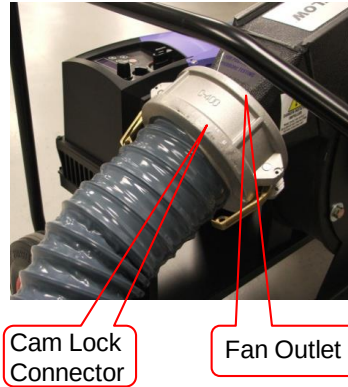
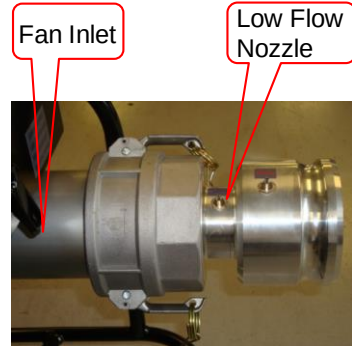

Figure 6. Positive Pressure, High-Flow Setup
Figure 7. Positive Pressure, Low-Flow Setup
- a. For positive pressure, high-flow testing, remove the low flow nozzle if it is installed. Then, connect the gray cast-aluminum cam lock connector to the outlet side of the blower per Figure 6. Close both cam lock arms at the same time to ensure proper fit.
- b. For positive pressure, low-flow testing, add the low flow nozzle to the blower inlet if it is not installed per Figure 7. Then, connect the gray cast-aluminum cam lock connector to the outlet side of the blower per Figure 6. Close both cam lock arms at the same time to ensure proper fit.